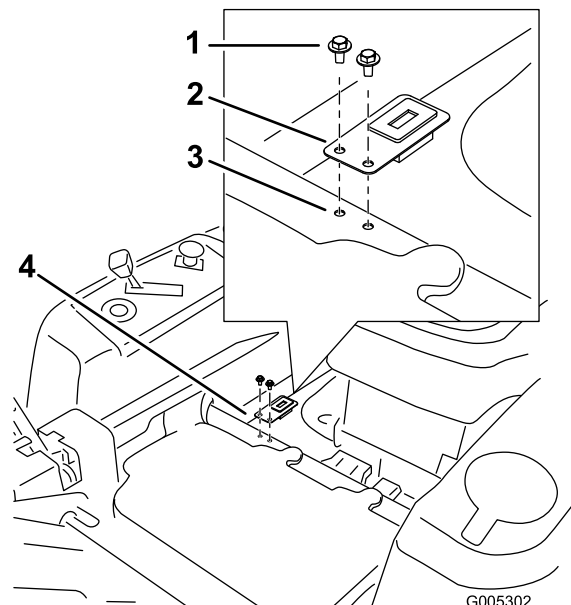

Figure 3
2. Use the self tapping screws to install the bracket onto the seat support in the orientation shown in Figure 3.
1. Locate the two holes in the frame support shown in Figure 3. Install the hour meter assembly to the location as shown.